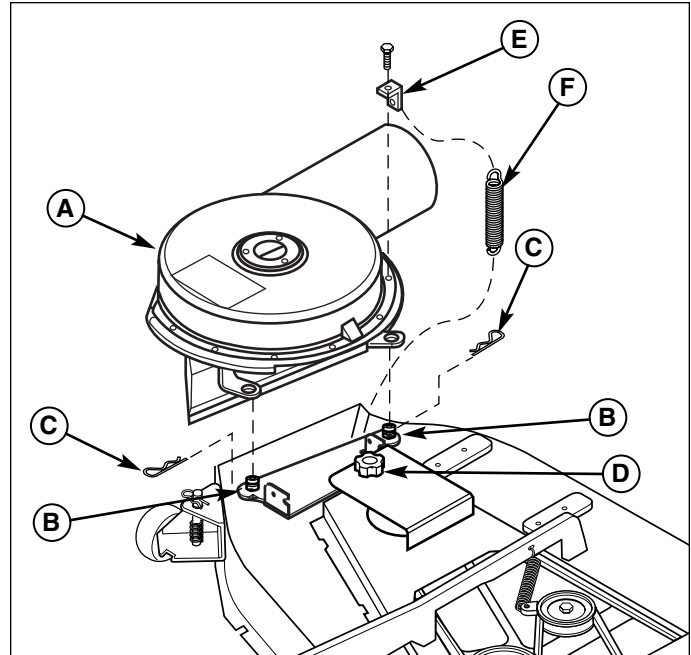
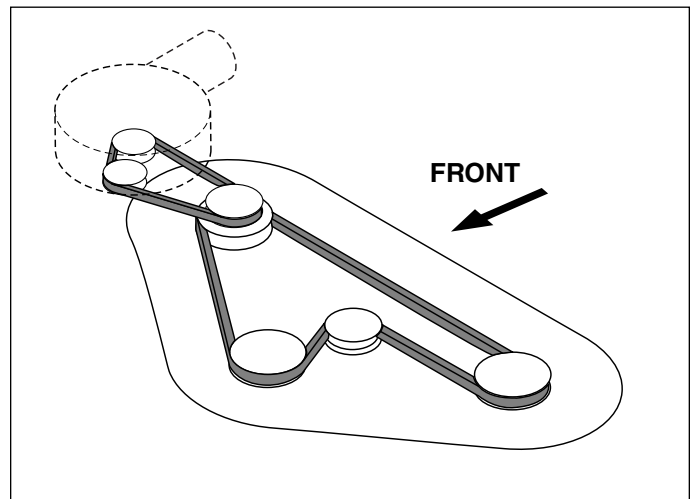

Figure 11. Install Turbo
Figure 12. Install Turbo
1. Insert the tapered spacers (B, Figure 11) through the bottom of the blower housing (A).
2. Install one spring clip (C) on each of tapered spacers (B).
4. Use the release lever to release tension on the belt, and install the belt on the arbor pulley (see Figure 12).
5. Rotate the belt cover into position and secure with the plastic knob (D, Figure 11).
6. Install the spring (F). Connect the top of the spring to the bracket (E) and the bottom to the hole in the mower deck shell, just behind the discharge opening.
1. Remove the spring (F, Figure 11).
2. Loosen the plastic knob (D, Figure 11).
3. Use the release lever to release tension on the belt, and remove the belt from the arbor pulley (Figure 12).
4. Remove the spring clips (C, Figure 11) from the tapered spacers (B).
5. Remove the turbo assembly (A) from the deck.
6. Close the small belt cover and secure with the plastic knob (D, Figure 11).